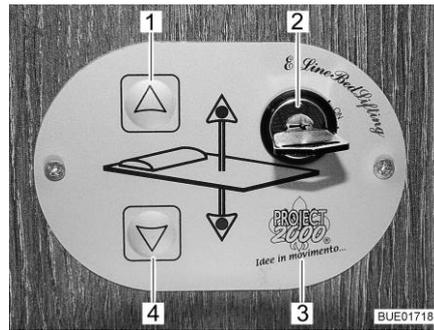
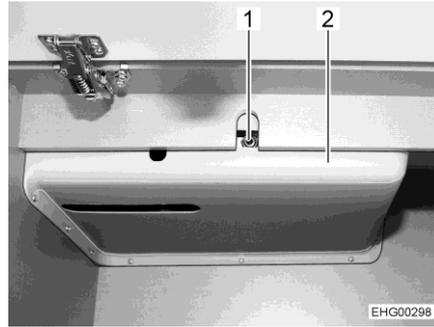

Fig. 100 Control unit
Fig. 101 Access to drive
The pull-down bed is raised or lowered using the buttons (Fig. 100,1 and 4) on the control unit (Fig. 100,3). The control unit is protected against unauthorized use with the key switch (Fig. 100,2).
- Turn the key in the key switch (Fig. 100,2) through 90° clockwise. The control unit (Fig. 100,3) is activated.
- Press the arrow key (Fig. 100,4) and keep it pressed until the pull-down bed has moved down into the desired position.
- Press the arrow key (Fig. 100,1) and keep it pressed until the pull-down bed has moved down into the final upper position.
If it is no longer possible to move the pull-down bed with the arrow keys (Fig. 100,1 and 4), first of all check the fuse behind the panelling (Fig. 101,2) (see section 9.10). If the fuse is okay and it is still not possible to move the pull-down bed, operate the pull-down bed manually.
- Insert the crank provided or an Allen wrench into the accommodation on the motor (Fig. 101,1).